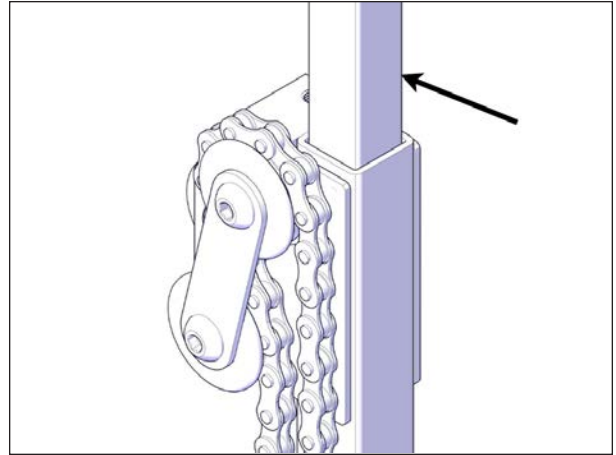

FIGURE 80: SLIDING PARTS GREASING
7. Spray grease on all the sliding parts and mechanical components of all four jacks, see Figure 80.